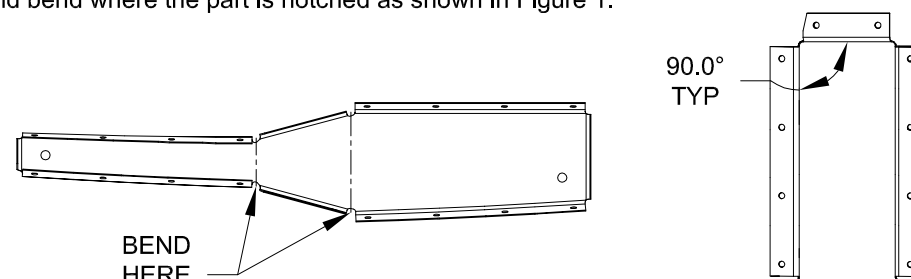

FIGURE 1: BENDING HAND HOLD
Step 1: Take the W-1204G-L Hand Hold and bend where the part is notched as shown in Figure 1.